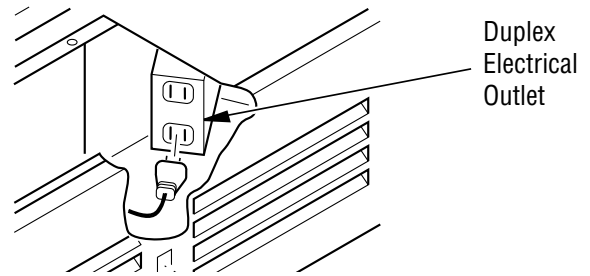

Figure 4: Accessing Duplex Electrical Outlet installed in Bottom Right Side of Firebox
If there is a duplex electrical outlet installed in the right side of the bottom of the fireplace base area (see Figure 4, page 3), be sure that the electrical power to the outlet is turned off before proceeding with blower installation. Failure to do this may result in serious injury.
3. Plug in blower power cord to duplex outlet (see Figure 4, page 3).